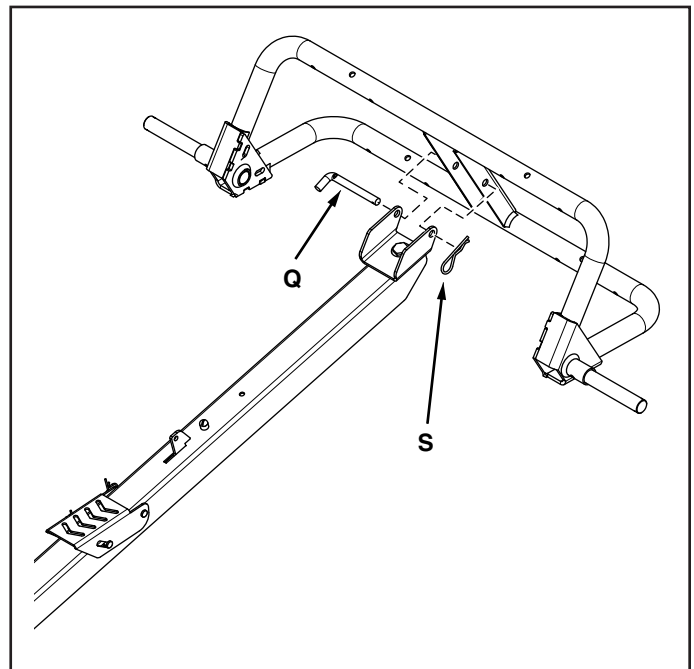

FIGURE 7
STEP 7: (SEE FIGURE 7)
1. Attach the tongue assembly to the wheel support using the channel pivot pin (Q) and a $\frac{3}{32}$ " hair cotter pin (S).